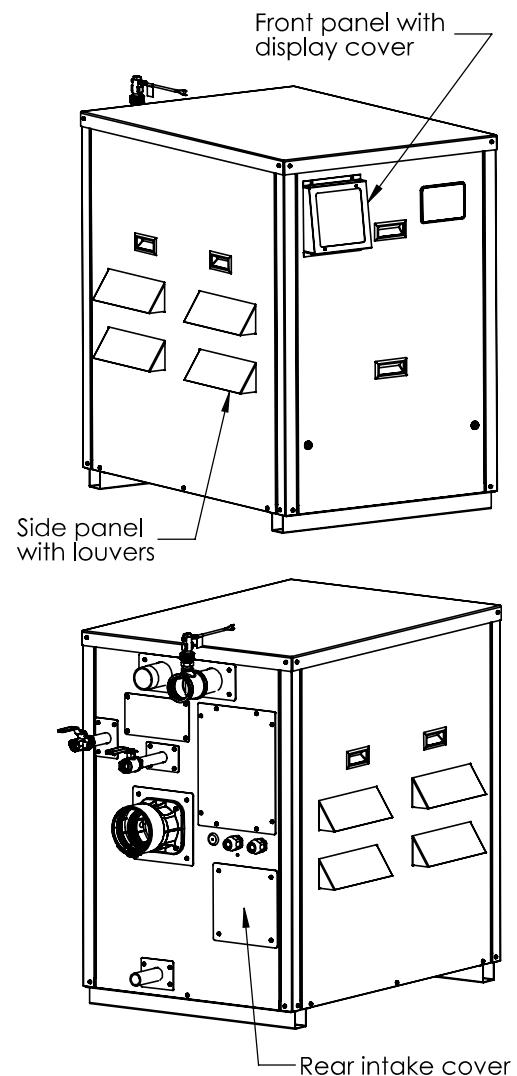

Figure 3: Citadel 400-1000L with Outdoor Trim
4. Verify model size and whether the appliance is supplied with indoor or outdoor trim. See Figure 3.